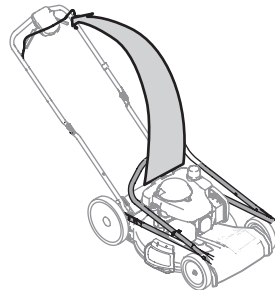

Figure 7
3. While stabilizing mower so it doesn't move, gently lift and pivot the upper handle into the operating position (Figure 7). Make certain the lower handle is seated securely into the handle brackets. Do not crimp blade or drive control cables while lifting the handle up.